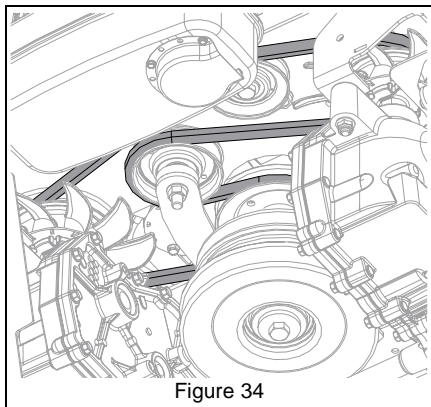

Figure 34
1. Install ground drive belt. See Figure 34.